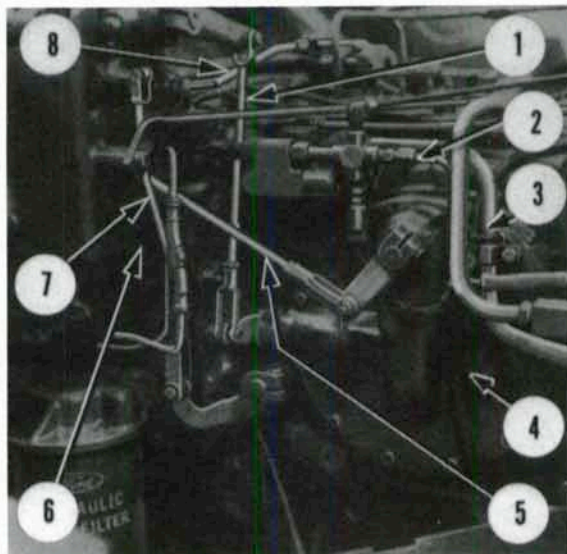

Fig. 220—View of gearshift linkage on TW-35 tractor. Other models are similar.
Remove clamp bolts from shift levers and withdraw shift levers from shift mechanism. Disconnect shift interlock control rod (1—Fig. 220), gear shift control rod (5), high-low shift rod (7) and parking brake rod (8). Unbolt and remove gear shift mechanism (6).